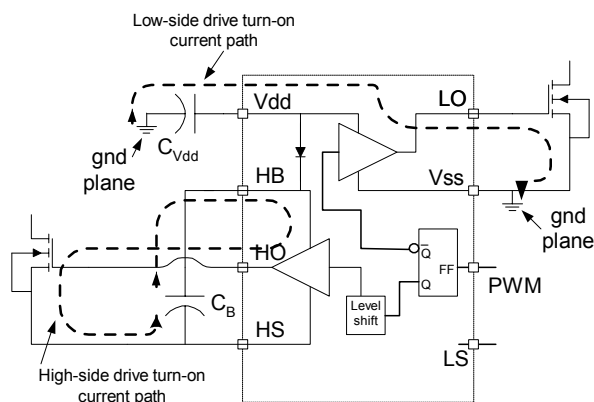
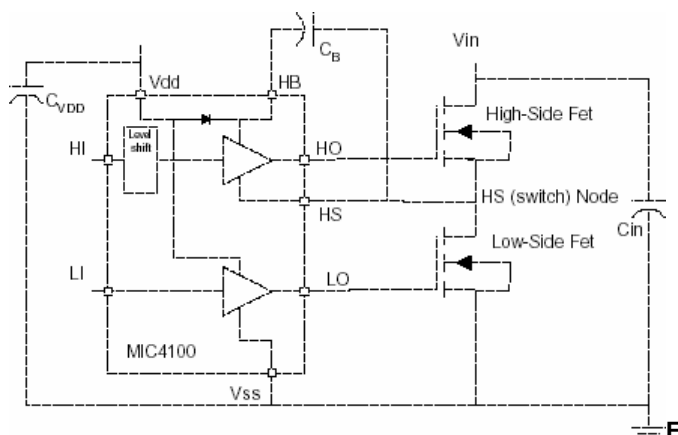

Figure 9. Turn-on Current Paths
Figure 11. Typical Converter Power Stage
Figure 9 shows the critical current paths when the driver outputs go high and turn on the external MOSFETs. It also shown the need for a low impedance ground plane. Charge needed to turn-on the MOSFET gates comes from the decoupling capacitors C_{VDD} and C_B . Current in the low-side gate driver flows from C_{VDD} through the internal driver, into the MOSFET gate and out the Source. The return connection back to the decoupling capacitor is made through the ground plane. Any inductance or resistance in the ground return path causes a voltage spike or ringing to appear on the source of the MOSFET. This voltage works against the gate voltage and can either slow down or turn off the MOSFET during the period where it should be turned on.
3. Trace out the high di/dt and dv/dt paths, as shown in Figures 9 and 10 to minimize the etch length and loop area for these connections. Minimizing these parameters decreases the parasitic inductance and the radiated EMI generated by fast rise and fall times. A typical layout of a synchronous Buck converter power stage using the MIC4102 (Figure 11) is shown in Figure 12.